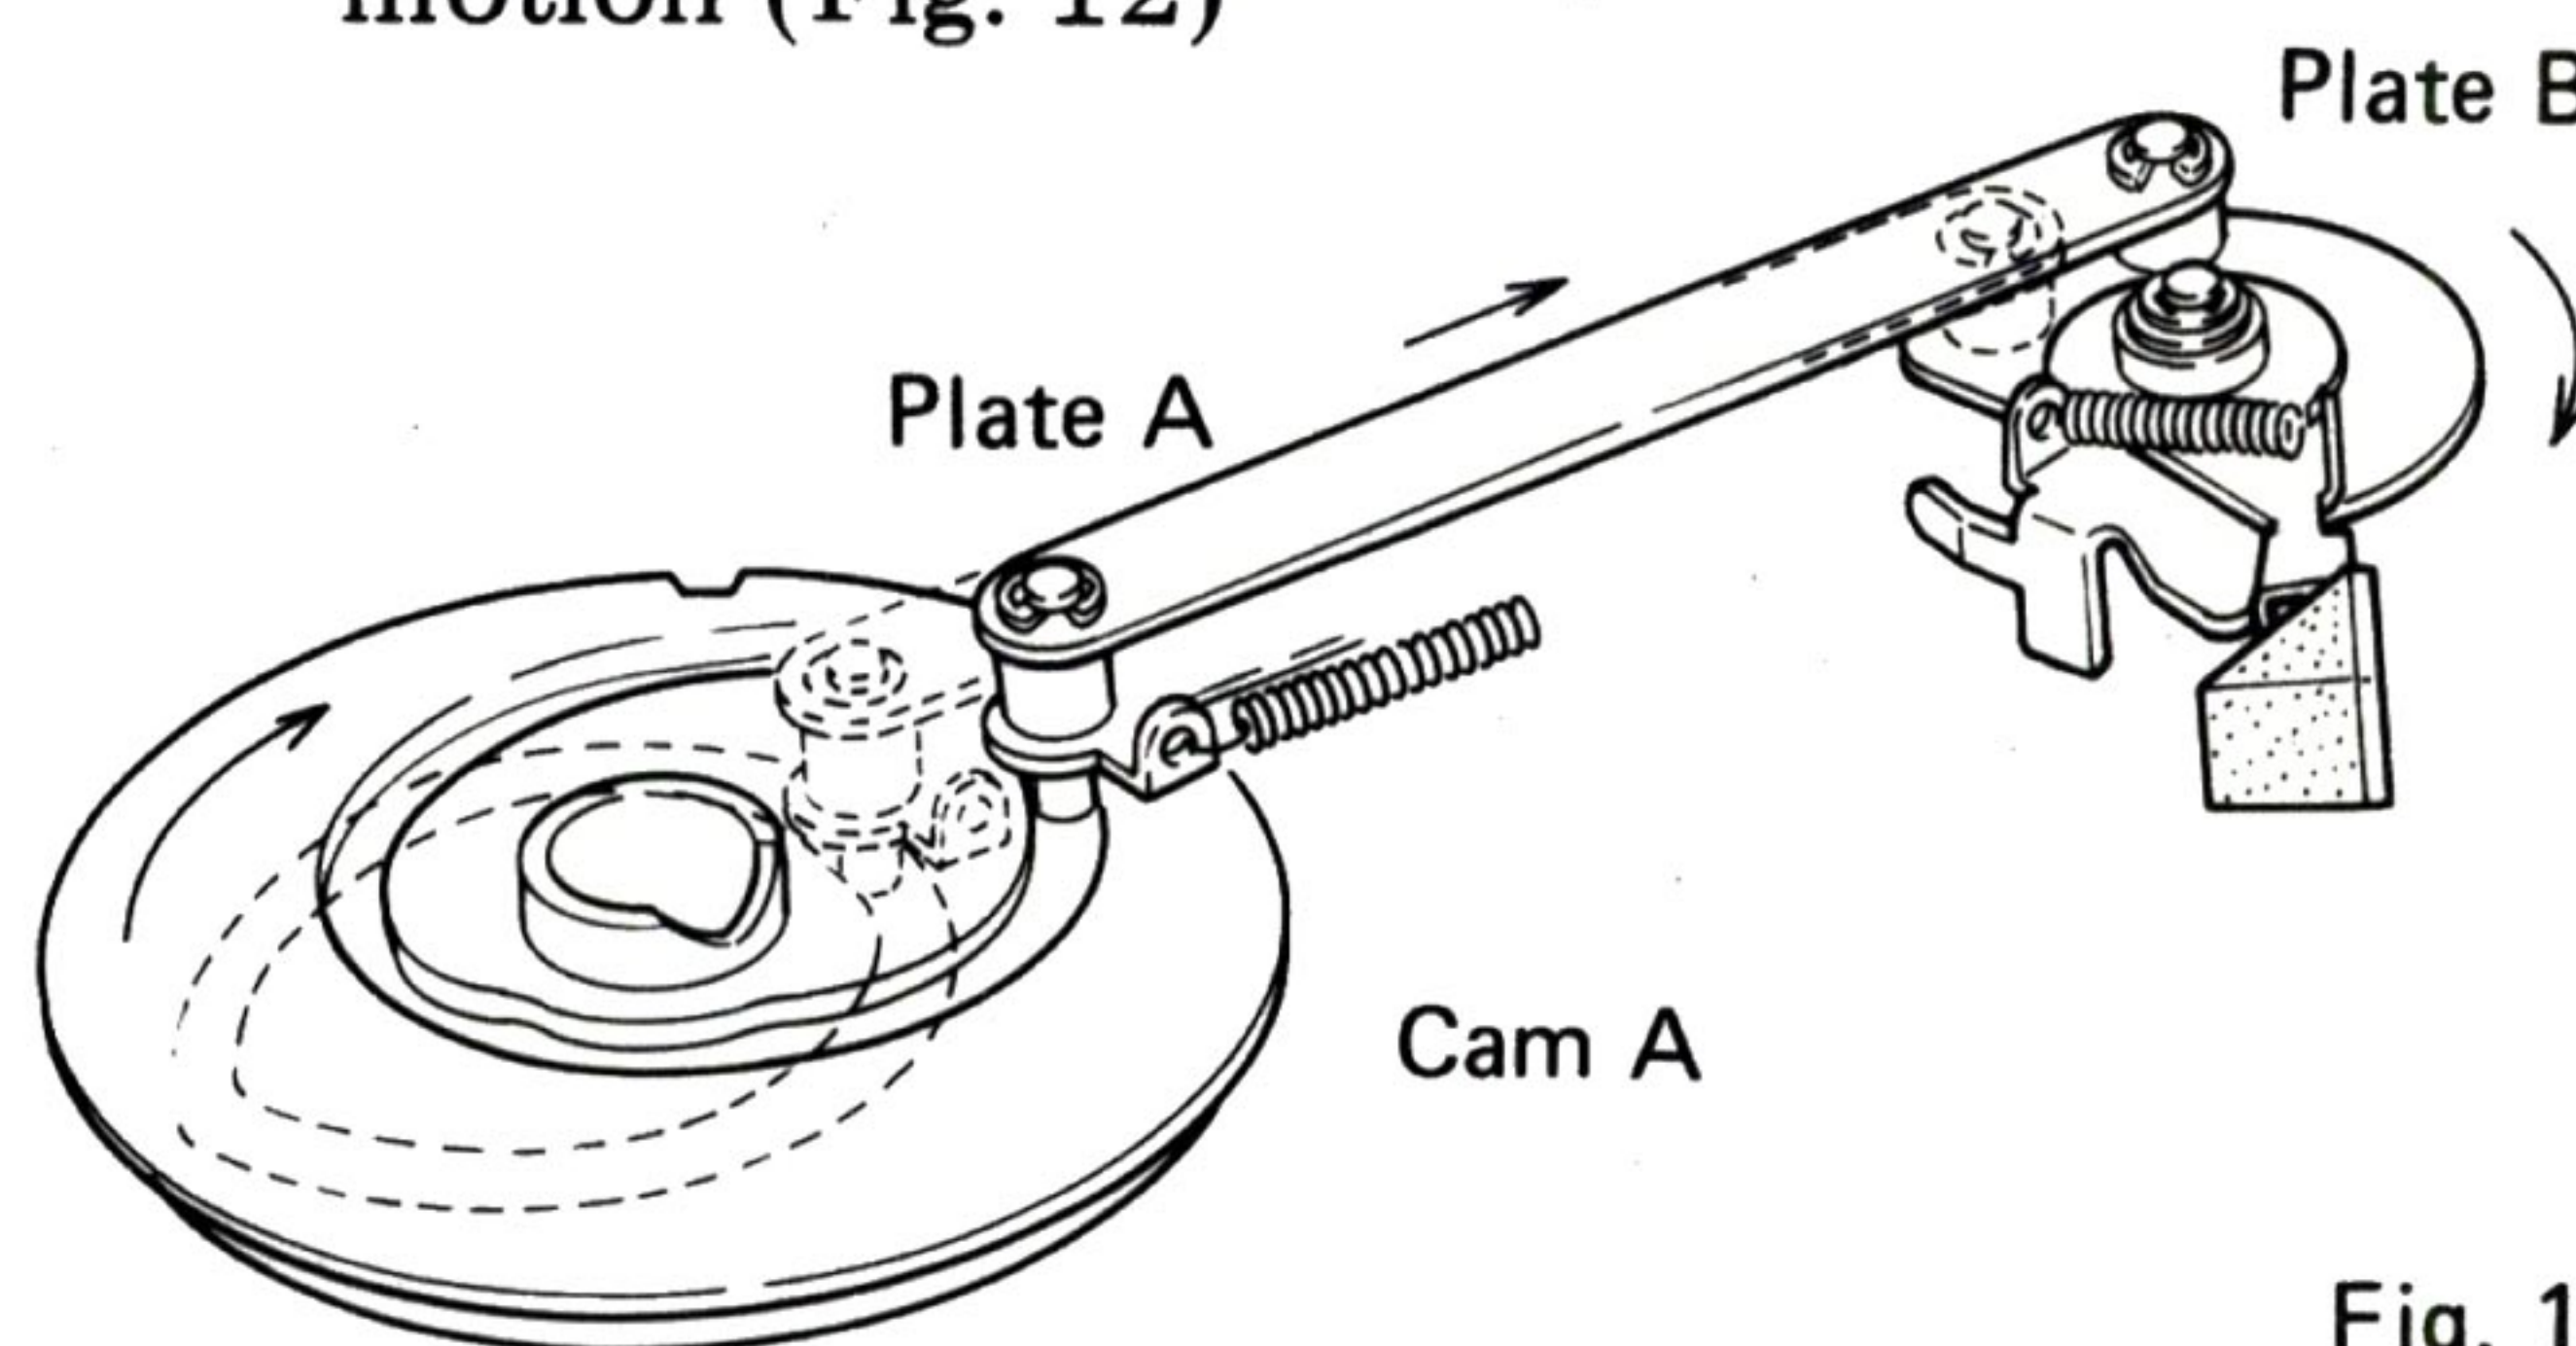

Fig. 12
- c) Plate A (connecting rod) sets plate B in motion (Fig. 12)